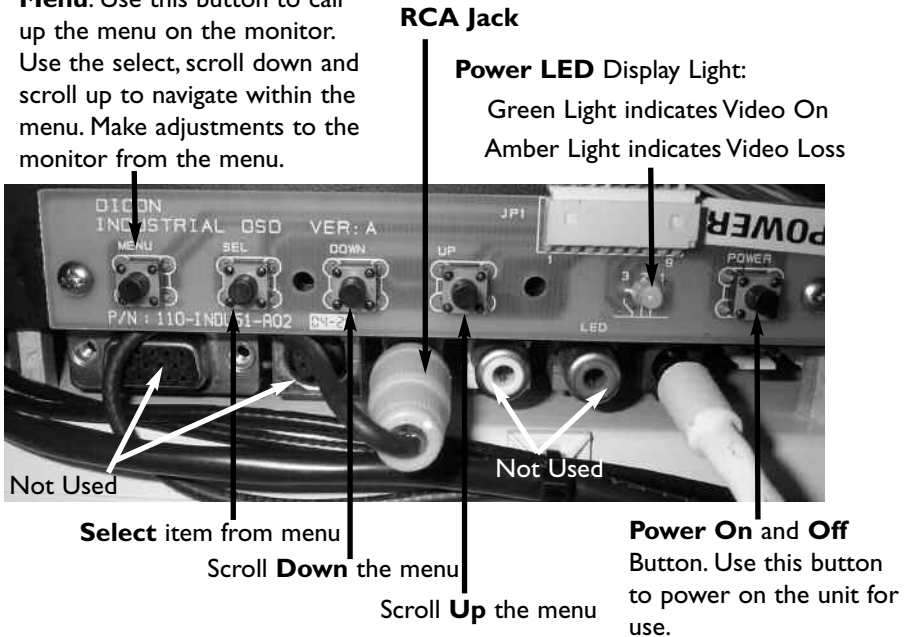

Figure 5: Monitor Controls
1. If the unit is not already powered, press the power button on the monitor control panel. See **Figure 5** for exact location.
2. Make any needed adjustments to the monitor from the menu button. See **Figure 5** for exact location and uses.
Check the Monitor Controls “Power LED” (see **Figure 5** for location) to see if it is illuminated.
Unplug the yellow “RCA Jack” (see **Figure 5** for location), and plug in an alternate video source in this location, such as a DVD player or test pattern generator. At this point if the alternate video source is detected, please contact Aigis Customer Service department for further instructions.
Press the Power button next to the “Power LED” See **Figure 5** for location, to turn the monitor off, this will save the settings. Press the Power button again to re-activate the unit.